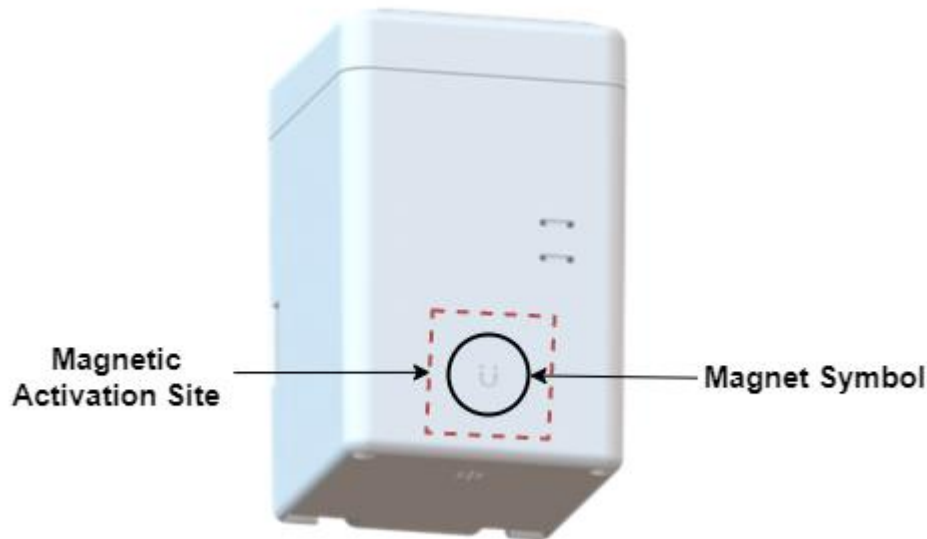
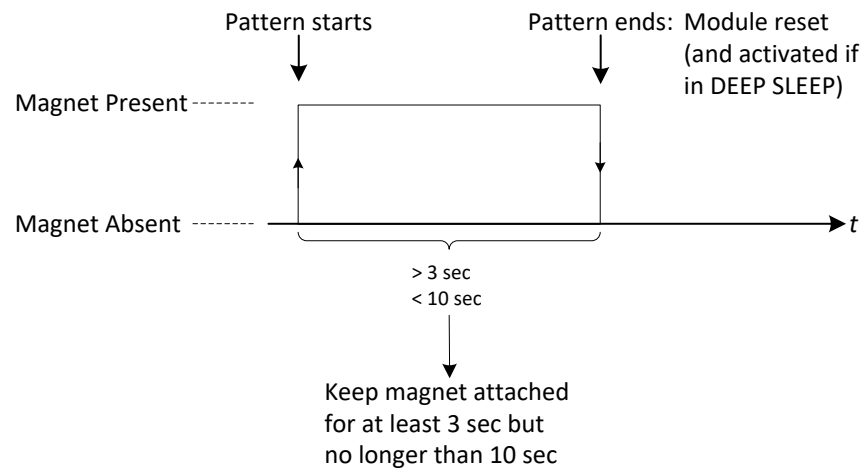
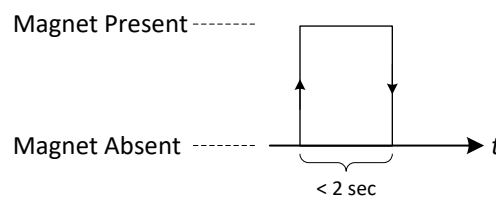

Figure 2-1: Enclosure View Showing Magnetic Activation Site and Symbol
Figure 2-2: The Magnetic Activation/Reset Pattern.
Figure 2-3: The Magnetic Forced UL Pattern
The STORK is equipped with an internal hall-effect sensor, which detects the presence and absence of a magnet. A magnet will be detected if it is sufficiently strong and brought into contact with the enclosure at the *magnetic activation site*, which is located on the enclosure body at the magnet symbol on the front, as shown in Figure 2-1.
The magnetic activation/reset pattern is illustrated in Figure 2-2. A “magnet presence” is achieved by placing a magnet against the enclosure at the magnetic activation site as shown in Figure 2-1. A “magnet absence” is achieved by taking the magnet away from the enclosure. Figure
1. **Magnetic Activation/Reset Pattern:** The same pattern to wake the sensor from DEEP SLEEP (Figure 2-2) can be used to put the sensor back into DEEP SLEEP, if applied while the sensor is in JOIN mode. I.e.: If the sensor detects the magnetic pattern before it has received the JOIN ACCEPT DL, then it will re-enter DEEP SLEEP mode.
The magnetic pattern for forced ULs involves briefly tapping the magnet against the magnetic activation site then removing it in less than 2 seconds, as illustrated in Figure 2-3. The magnetic activation site is shown in Figure 2-1.